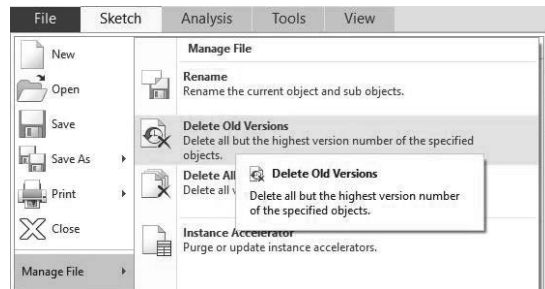

Figure 3-66 Delete Old Versions
Step 33: **File>Manage File>Delete Old Versions**. See Figure 3-66.